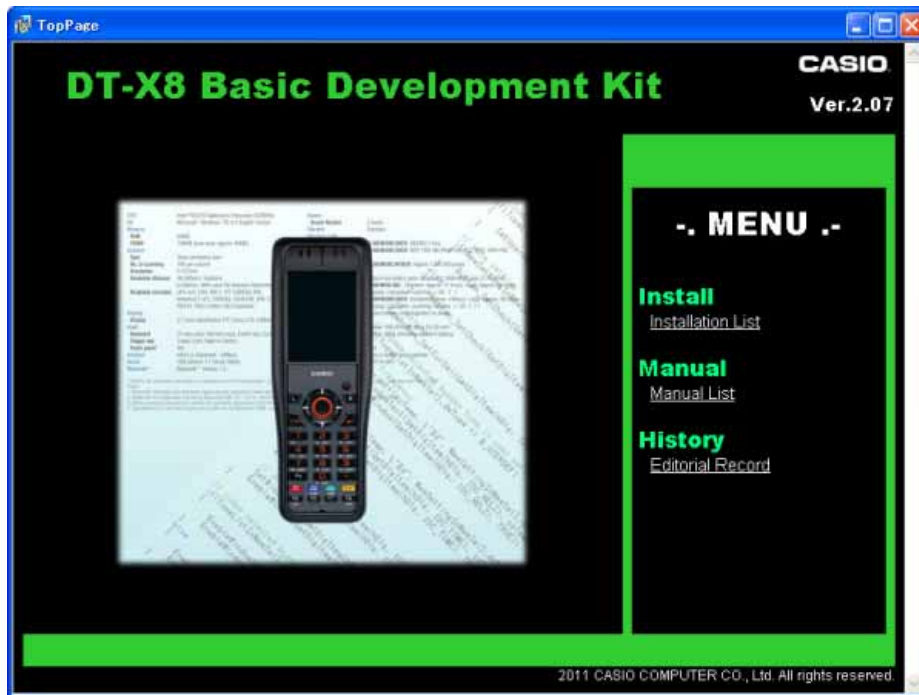

Figure 3.1
2. Click **Installation List** in Figure 3.1. The installation screen appears.